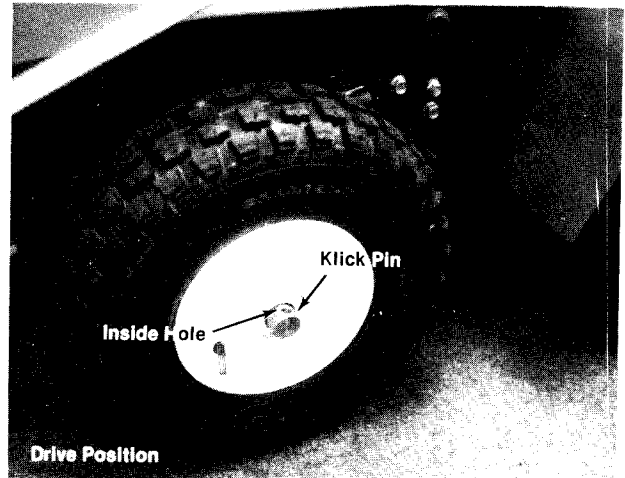

FIGURE 33.
- B. Drive position is when the klick pin is inserted into the inside hole of wheel shaft (hole in wheel hub) as shown in figure 33. Drive position is used for tilling.